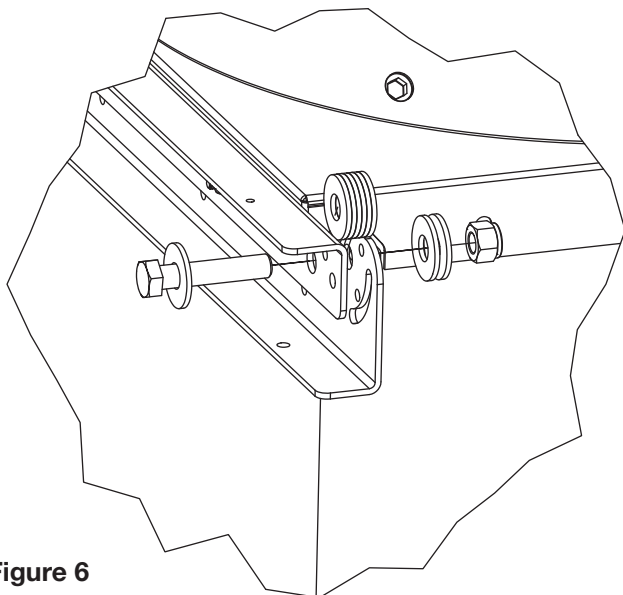

Figure 6
7. Determine how many 1/2" flat washers are needed between the upper and lower bracket pivot points and install the 1/2" - 13 x 2.5" bolt and washers as shown in Figure 6. The number of washers needed will vary depending on curb undersizing.